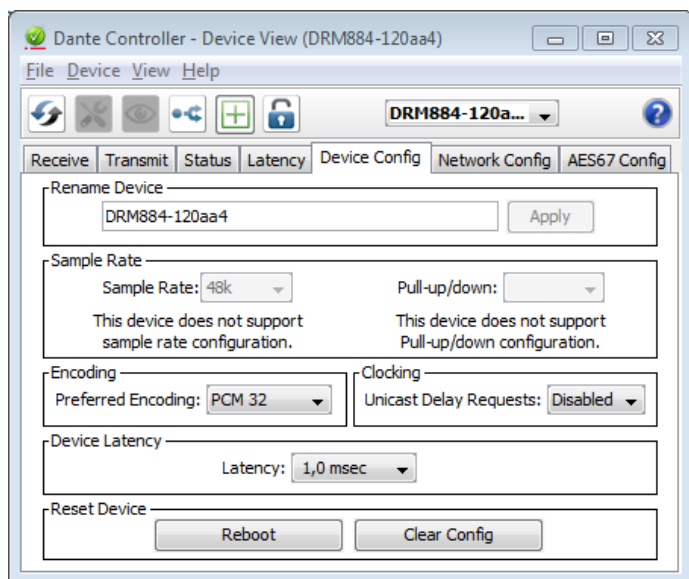

Fig. 10 Device View of DRM-884
- 5) The third bar can be used to indicate information on the device and to make settings. Select the tab “Device Config” (refer to fig. 10).